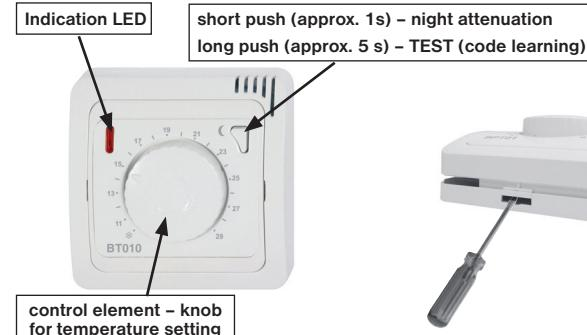

Fig.5
- Lift off the front cover of the transmitter according to Fig. 5.